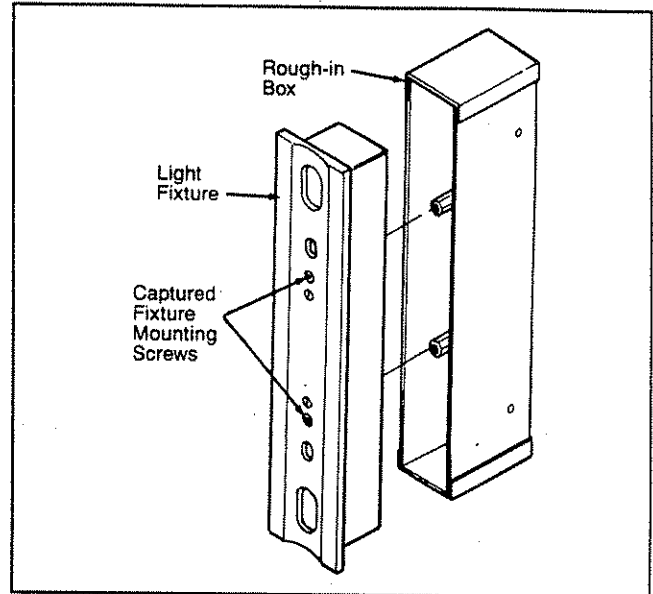

Figure 1.
1. Remove the light fixture from the rough-in box. See Figure 1.
9. Position wires neatly in the rough-in box and install the light fixture in the rough-in box. Attach the fixture with the screws captured on the faceplate of the fixture. See Figure 1.
1. Remove the light fixtures from the rough-in boxes. See Figure 1.